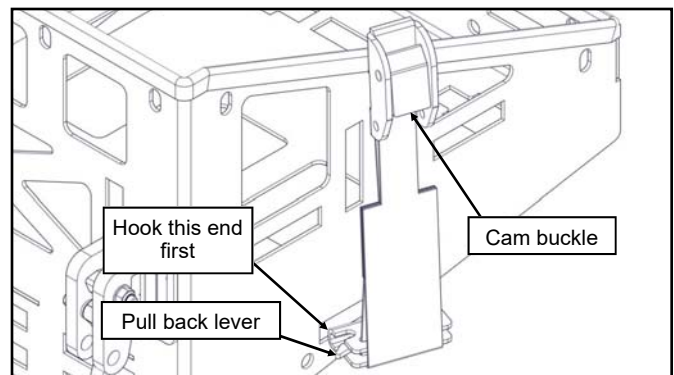

Fig. 2a (install fixed end of hold-down strap)
2. Based on the size of your fuel and bar oil cans, locate the best E-track slots that will securely hold these items. Install the fixed end of the hold-down strap first. To install the E-track fitting, pull the release lever towards the cam buckle, hook the release lever end of the fitting into the mount and then insert the other end. Release the lever. See figs. 2a & b.